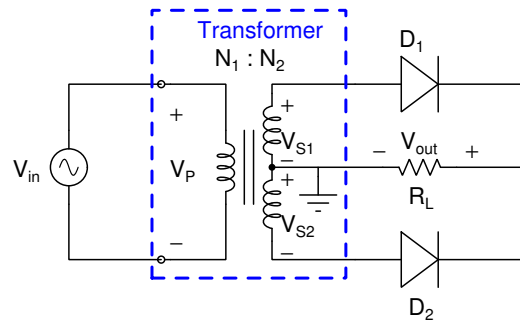

Figure 12
- Connect the circuit as shown in the figure 12 and apply V_{in} from function generator (amplitude 12 Vpp and 1 kHz), $R_L = 50\text{ k}\Omega$.